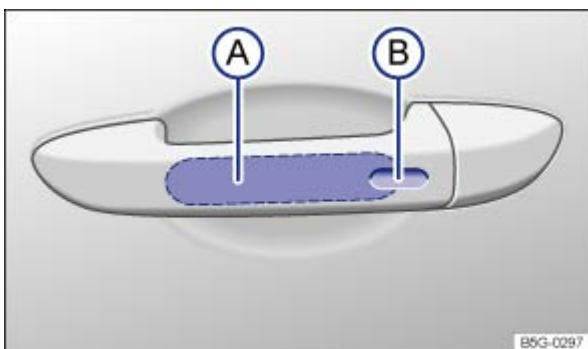

Fig. 55 Keyless Access system: Unlocking and locking sensors on the outside door handle.
Key to \Rightarrow Fig. 55 :
- Grasp the door handle so that you touch the unlocking sensor surface \Rightarrow Fig. 55\(A\).
- Touch the sensor surface in the door handle ⇒ Fig. 55\(B\) one time. The vehicle is locked.
If the vehicle is locked and a valid remote control vehicle key is within range ⇒ Fig. 55 of the trunk lid, it unlocks automatically when opened.
- Within 5 seconds, touch the sensor surface in the door handle on the driver or front passenger door ⇒ Fig. 55\(B\).
To use the convenience closing feature to close all power windows and the power sunroof, hold your finger on the lock sensor surface on the outside of the door handle ⇒ Fig. 55\(B\) for a few seconds until the windows and the power sunroof close.